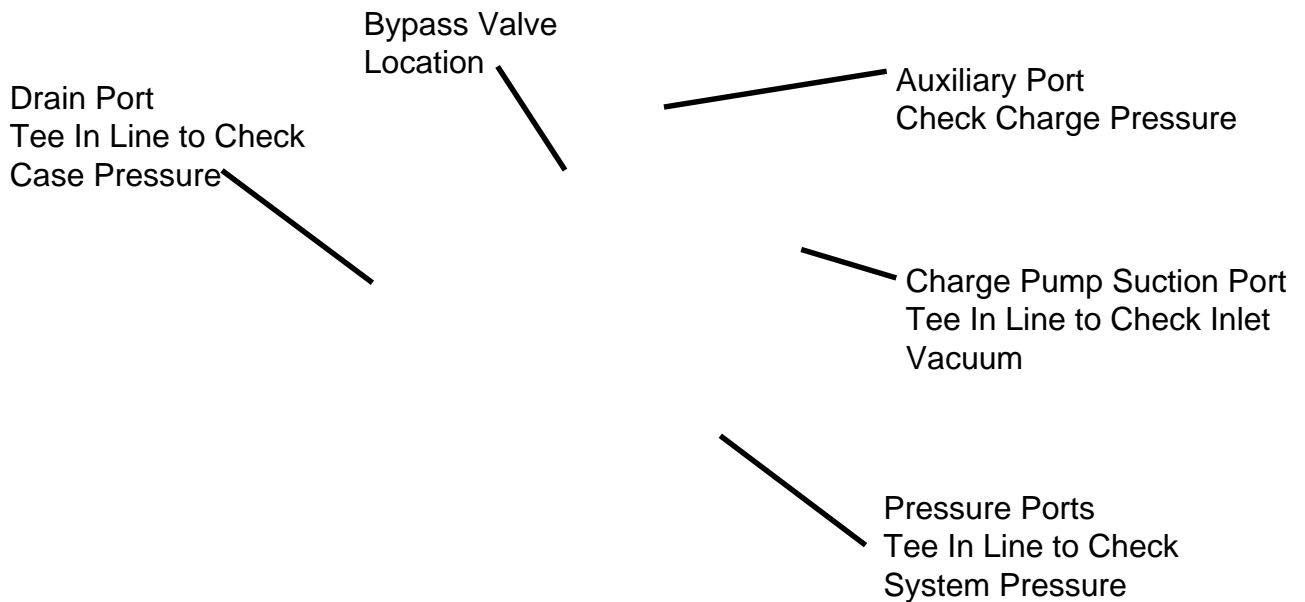

Figure 60
- a. See figure 60 for location of pressure gauge installation.